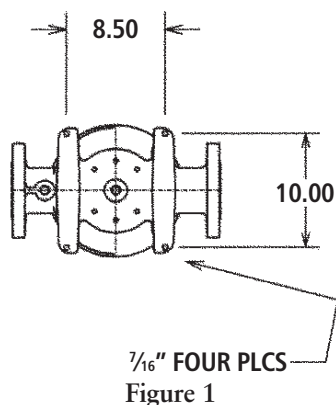

Figure 1
- The unit must be securely affixed to a leveled concrete or metal base foundation, adequate to absorb vibration and provide permanent, rigid support for the pump and motor assembly. The pump base mounting dimensions are shown in Figure 1.